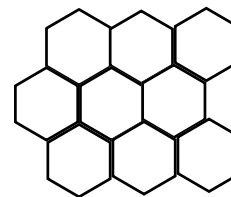

Fig. 4 The middle layer.
4. Make another copy of the hexagon assembled in step 1, and continue connecting alternating zinc and sulfide ions to this structure forming eight more hexagons. The layer that you have just made will fit in the middle of the completed crystal. (Fig. 4)